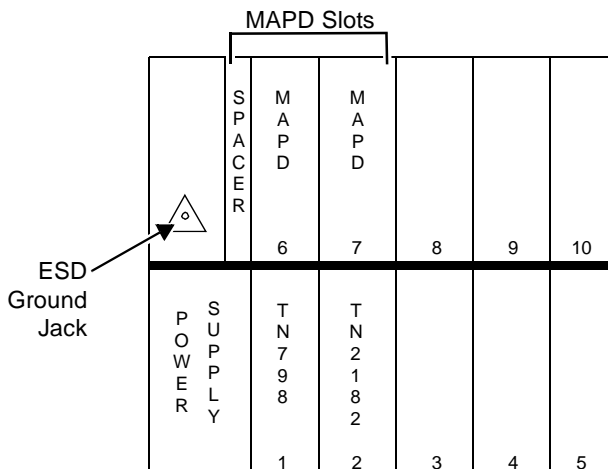

Figure 2-2. MAPD System in a DEFINITY ProLogix Carrier
- For a MAPD system being installed in an existing switch, three contiguous slots in a switch carrier are required to house the MAPD system (slots 16 to 18 as shown in Figure 2-1, “MAPD System in a DEFINITY ECS System Carrier,” and slots 6, 7, and the spacer as shown in Figure 2-2, “MAPD System in a DEFINITY ProLogix Carrier”). See Appendix A “PBX Carrier Configuration Worksheets,” for carrier worksheets.